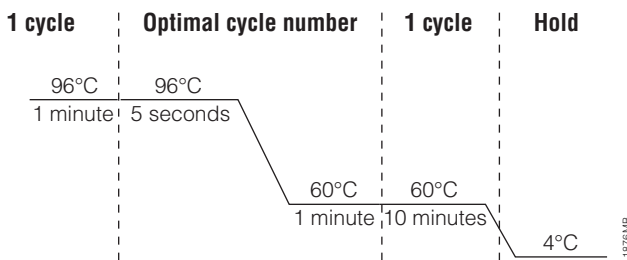

Figure 3. Thermal cycling protocol for the GeneAmp® PCR System 9700, Veriti® 96-Well Thermal Cycler and ProFlex™ PCR System.
2. Select and run the recommended protocol, which is provided below and in Figure 3. The total cycling time is approximately 1 hour.